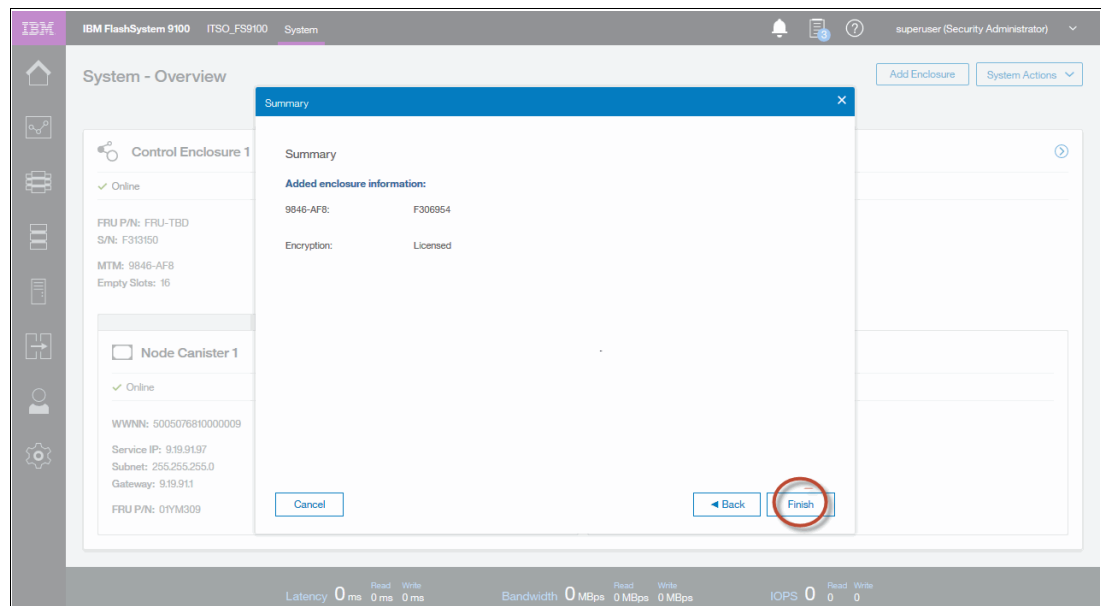

Figure 5-40 Select **Finish**
6. Review the summary in the next window and click **Finish** to add the control enclosure and all its expansions to the system as shown in Figure 5-40.